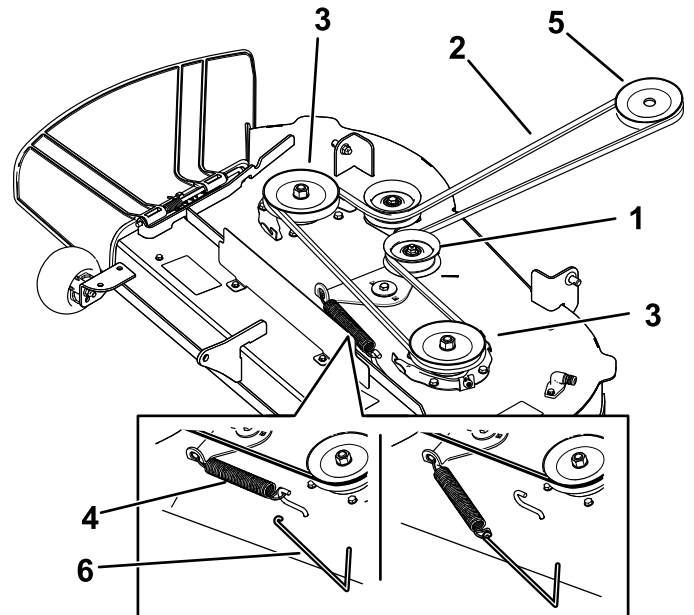

Figure 52
6. Using a spring-removal tool (Toro Part No. 92-5771), remove the idler spring from the deck hook to remove tension on the idler pulley, and roll the belt off the pulleys (Figure 52 or Figure 53).
7. Route the new belt around the engine pulley and mower pulleys (Figure 52 or Figure 53).
8. Using a spring-removal tool (Toro Part No. 92-5771), install the idler spring over the deck hook and place tension on the idler pulley and the mower belt (Figure 52 or Figure 53).